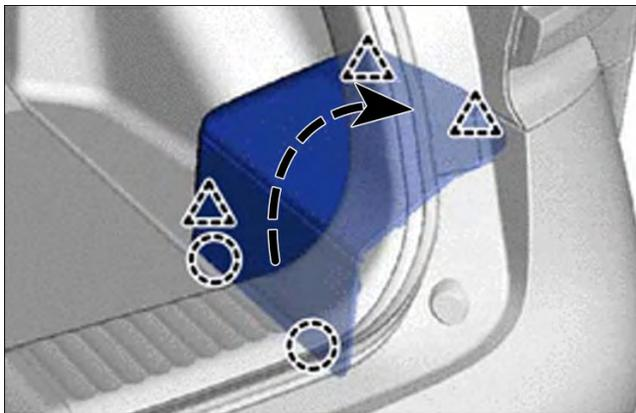

Figure 75b
- a. Engage the 3 clips and 2 claws and install the battery service hole cover assembly, as shown in Figure 75b.